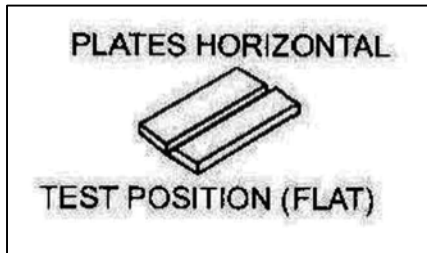

Figure A6.5 Flat position
- (1) Flat position (figure A6.5) - Plate in a horizontal plane with the weld metal deposited from above.